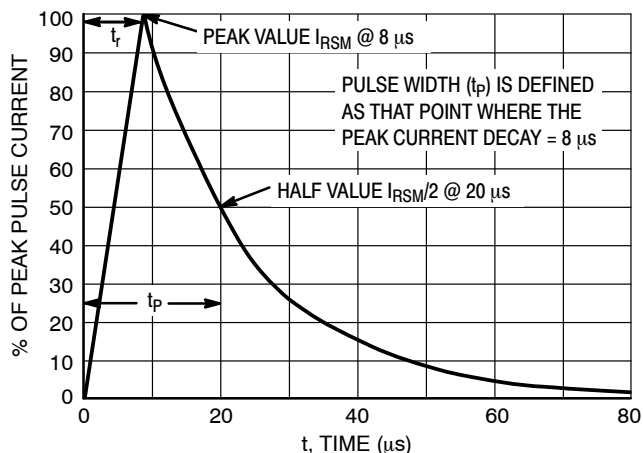

Figure 5. 8 X 20 μ s Pulse Waveform
3. Surge current waveform per Figure 5.